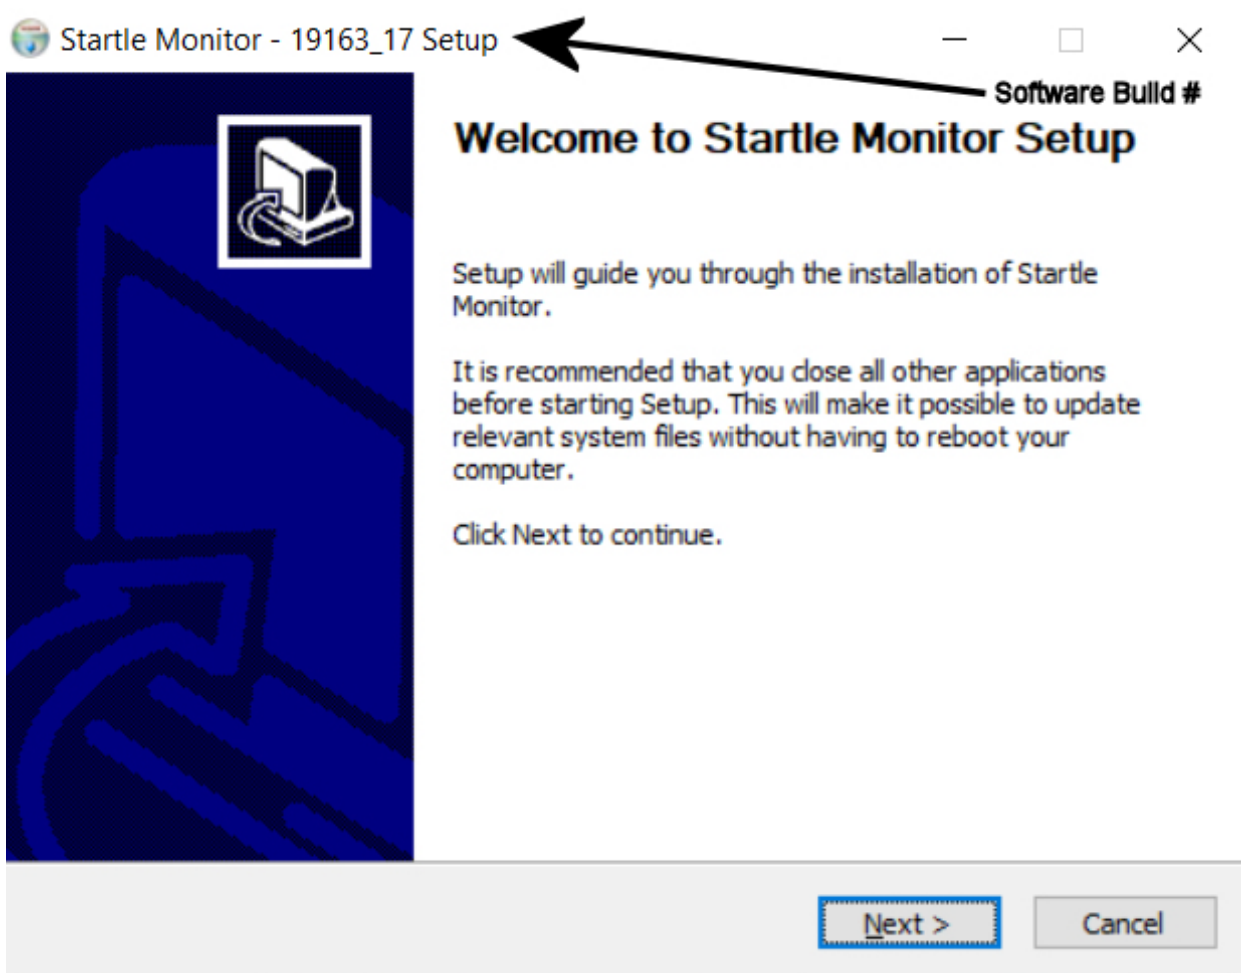

Figure 11 StartleMonitor Software Wizard Screen
- Double click on SMInstall.exe file. The screen of Figure 11 will appear. Again, make sure that you open the SMInstall.exe file from the location where all these five Installation Files have been transferred. The installation uses an AUTORUN feature and will open the following Window: